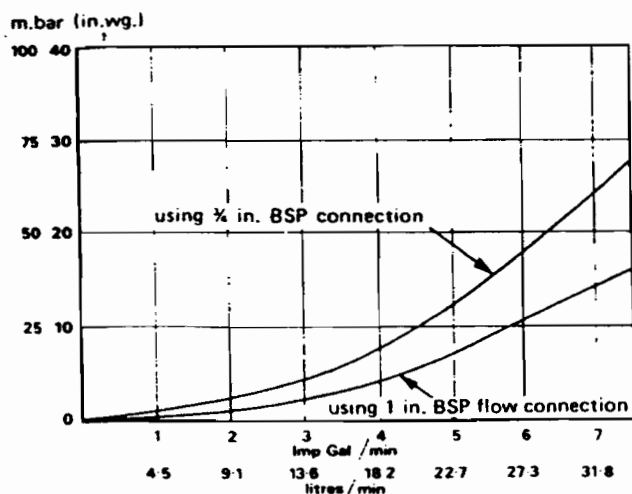

FIG. 1 PRESSURE LOSS ACROSS BOILER
5. The circulating pump should be selected with reference to Fig.1. The resistance through the boiler heat exchanger will not exceed 31 mbar (12.5 in.wg.) at a flow rate of 5 gal/min.